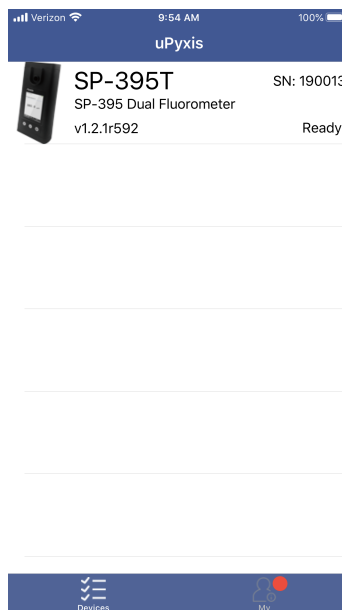

Figure 15.
4. If the connection is successful, the SP-395T and its Serial Number (SN) will be displayed (Figure 15).